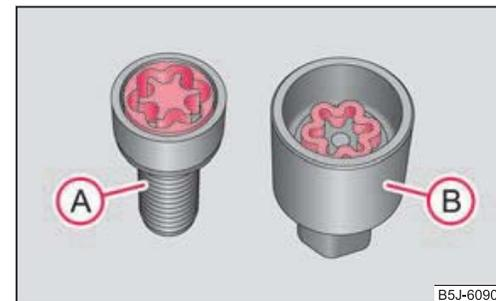

Fig. 157 Illustration image: Safety wheel bolt with adapter
- Insert the adapter (B) with its toothed side into the inner tooting of the head of the safety wheel bolt (A) ⇒ fig. 157.
- Insert the wheel wrench fully onto the adapter (B).